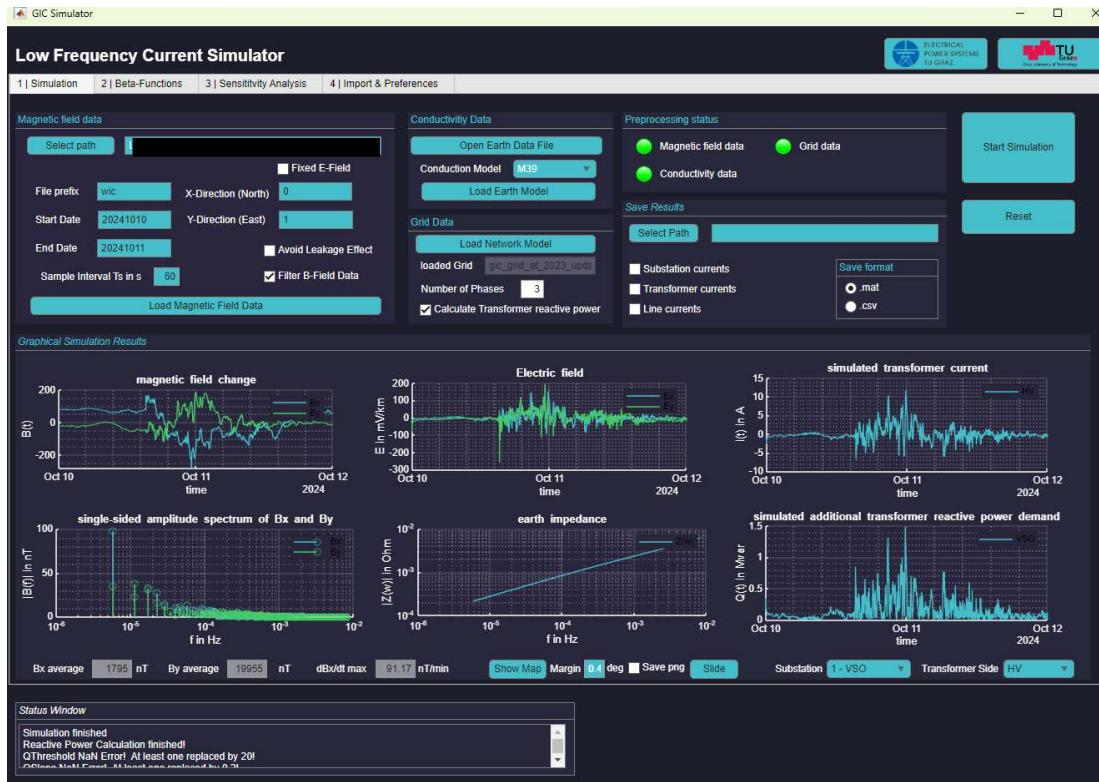

Figure 11: Simulation results
6. Press *Start Simulation* to start the simulation process. After a successful simulation, the results are shown in the GUI as depicted in Figure 11 and the results are saved (e.g. *LFC\_Grid\_Template\_2Nodes\_LineCurrents.mat*). On the bottom right corner, it is possible to switch between substations and transformer voltage levels.